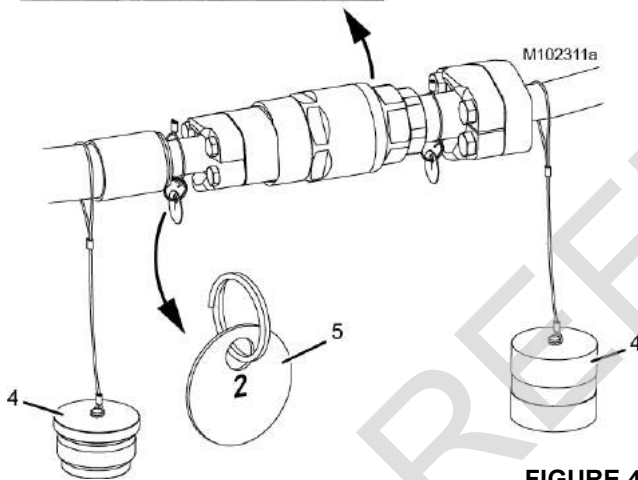

FIGURE 4-10
Where necessary, the hydraulic hoses and corresponding couplers have identification tags (5) as shown in Figure 4-10. Match the number on the hose with the number on the decal or the corresponding coupler to ensure proper connection.
Connect each screw-to-connect coupler and nipple (Figure 4-10), as follows: